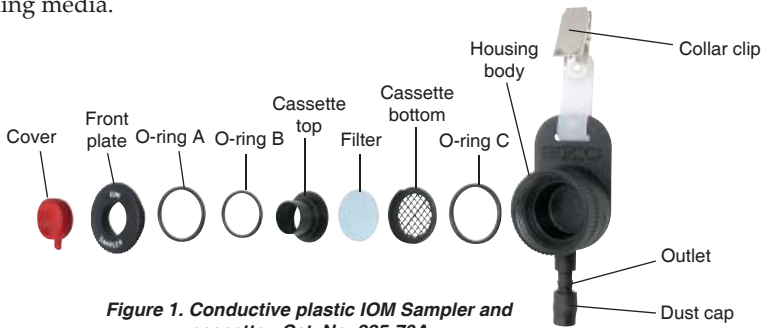

Figure 1. Conductive plastic IOM Sampler and cassette - Cat. No. 225-70A
1. Disassemble the IOM Sampler (Figures 1, 2, and 2A).